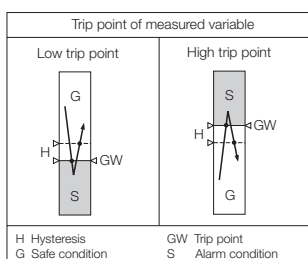

Fig. 3. Switching function, according to trip point type.
- Low trip point of measured variable (see Fig. 3, left)
- High trip point of measured variable (see Fig. 3, right)